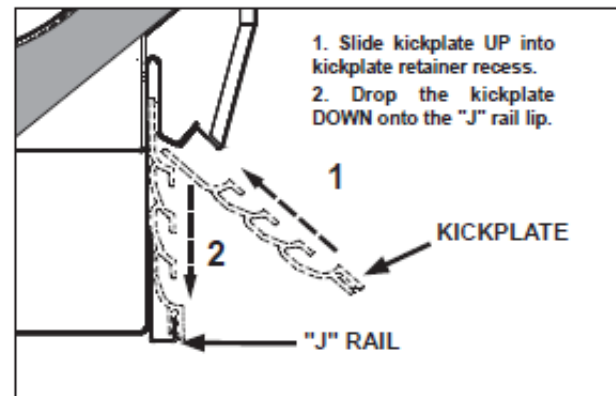

Fig. 3 Sliding kickplate into "J" Rail
8. Insert top of kickplate into the kickplate retainer. Slide the kickplate up into the retainer, then down onto the "J" rail (Fig. 3). Be certain that the bottom of the kick-plate is fitted over extruding "lip" of the "J" rail.